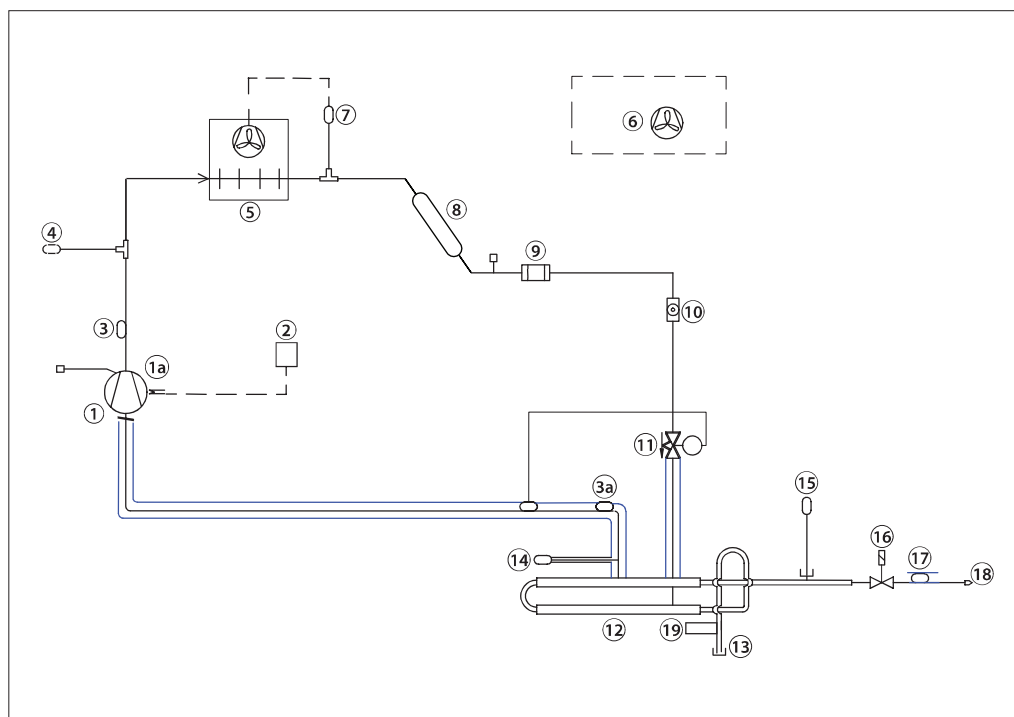

Fig. 1 - Purger R290, lay-out
Only 2 mechanical connections are needed for the purger (see fig. 1). The flow of ammonia/NC gases from the main plant is done through the flange for ammonia (see 13 in Fig. 1 below), while the NC gas purge is done through the blow-off pipe after the purge restrictor (18).